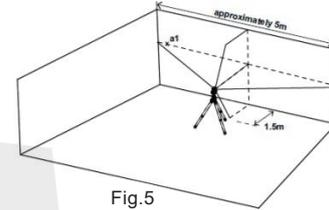

Fig.5
3. Mark point a1 on the wall, in the middle of the horizontal line at the left edge of the horizontal line (see figure 5).